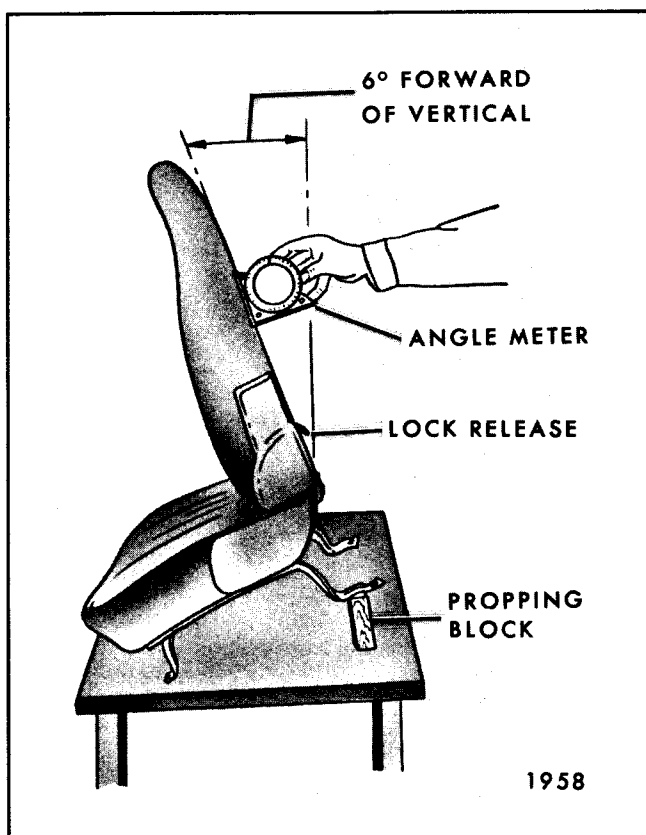

Fig. 9-16-Front Seat Back Inertia Lock Check, Out of Vehicle
2. With the seat in the full rearward position, raise and prop rear seat 152 mm (6") high (Fig. 9-16). On passenger seat only place a support under front foot of inboard adjuster.